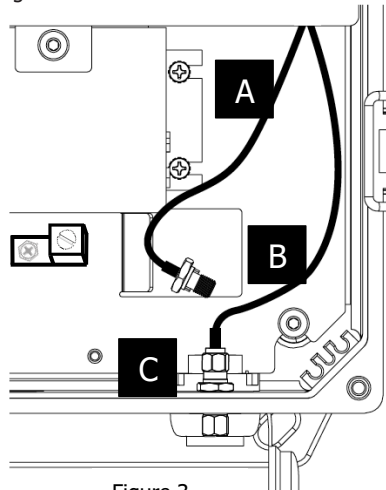

Figure 3
3. Screw on and hand tighten the connect on cable B to connector C as shown below. (Figure 3)